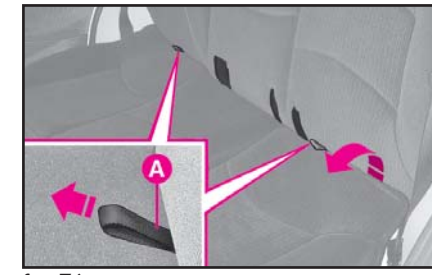

fig. 76
1) Insert central rear seat belt and its slider to the anchoring device. **Fig. 76**
2) Tilt the rear seat by pulling the arms in the direction of drive. **Fig. 76-A**